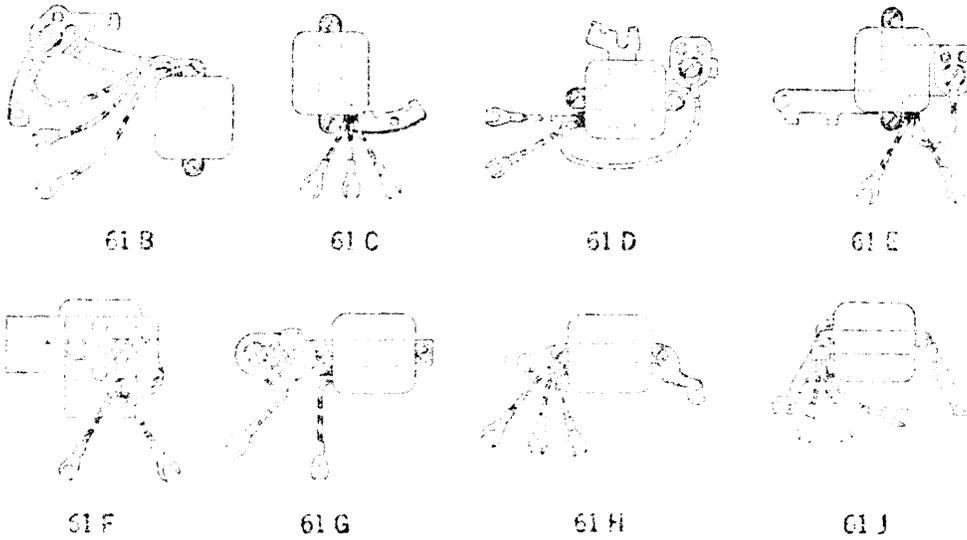

Fig. 1.
2.02 Each of the 61-B, 61-C, 61-D, 61-E, 61-F, 61-G, 61-H and 61-J filters consists of a 61-A filter mounted with two mounting screws on a bracket which varies in design according to the apparatus with which it is to be used, as shown in Fig. 1.